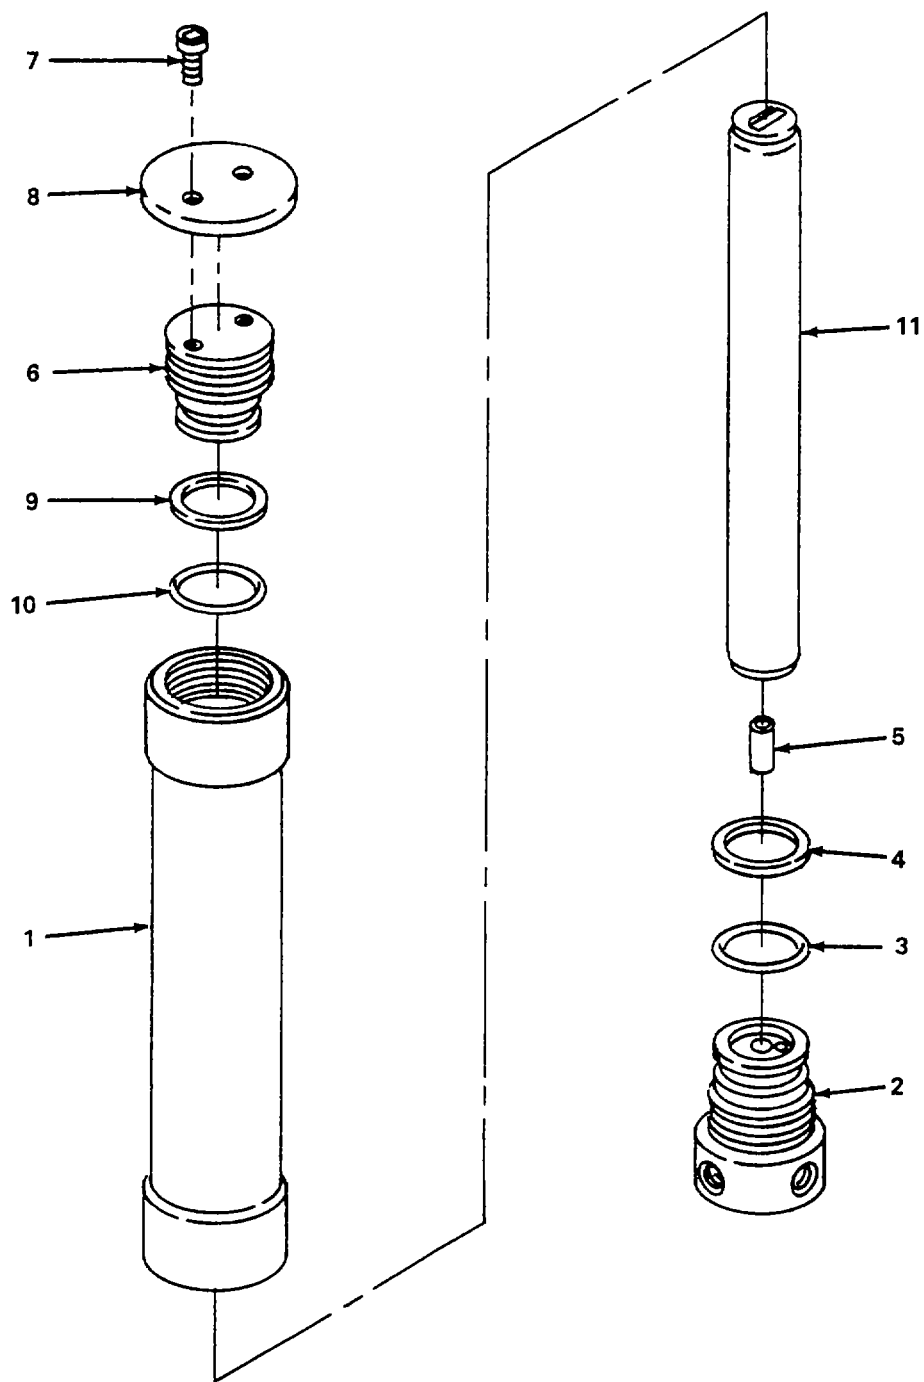

Figure 5-5. Purifier Assembly, Repair.
c. Repair. (figure 5-5)**WARNING**